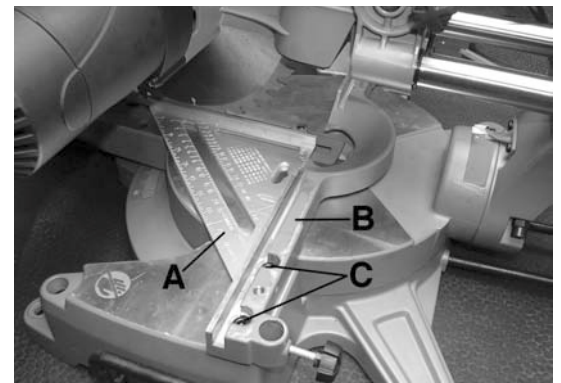

Figure 13
7. Place a square (A) Fig.13 against the fence (B) and the flat part of the blade.
10. Remove the fence extension cap screws, loosen the rear fence extension lock knobs and remove fence extensions by sliding them off the fence. Loosen the now exposed fence cap screws (C) Fig.13 on both sides and position the fence (B) against the square and retighten all cap screws.